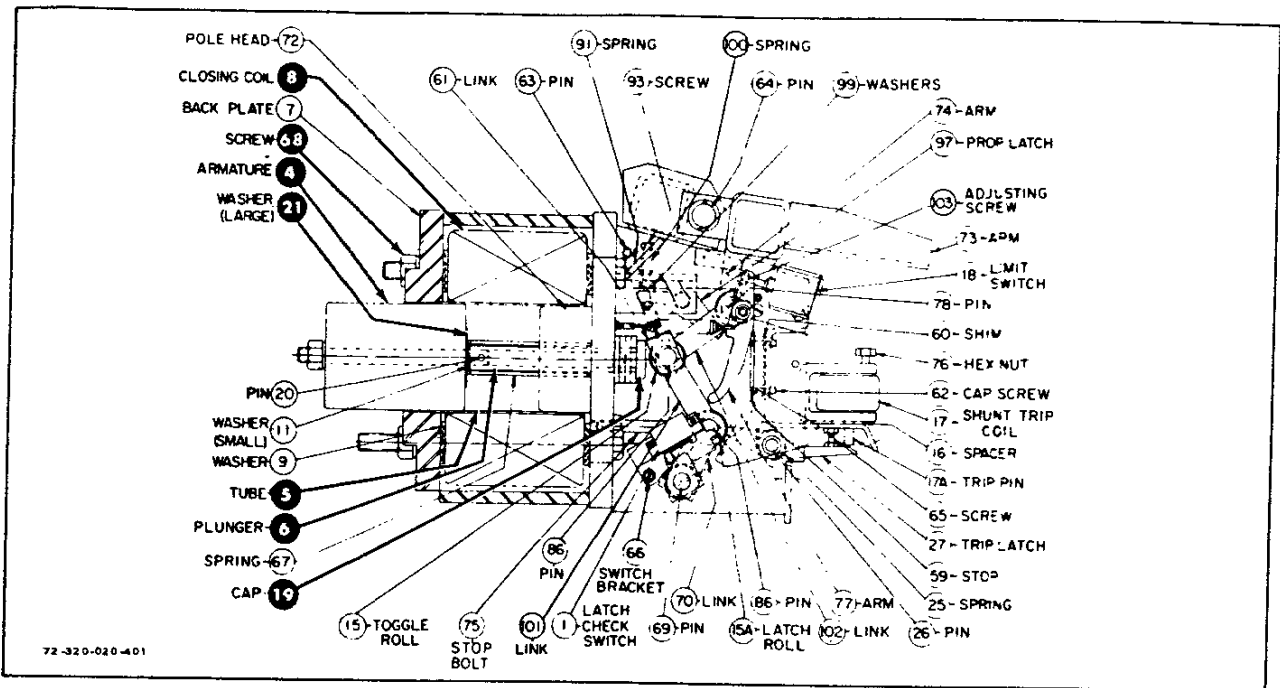

Fig. 3 - Solenoid operator assembly.
Solenoid Operator - The primary closing force of this operator (Fig. 3) is supplied by a dc solenoid. The iron circuit housing the solenoid consists of the main operator frame - to which the pole head is welded - a helically wound tube and a back plate held in place by four bolts (68). The armature (4), with plunger (6) and cap (19) attached, slides in a non-magnetic tube (5). When the coil (8) is energized, the armature moves toward the pole head. The non-magnetic washer (21) keeps the armature from actual contact with the pole head so that the armature will release rapidly when the coil is de-energized by reducing the effect of the residual magnetism. The armature is returned by a spring around the plunger.